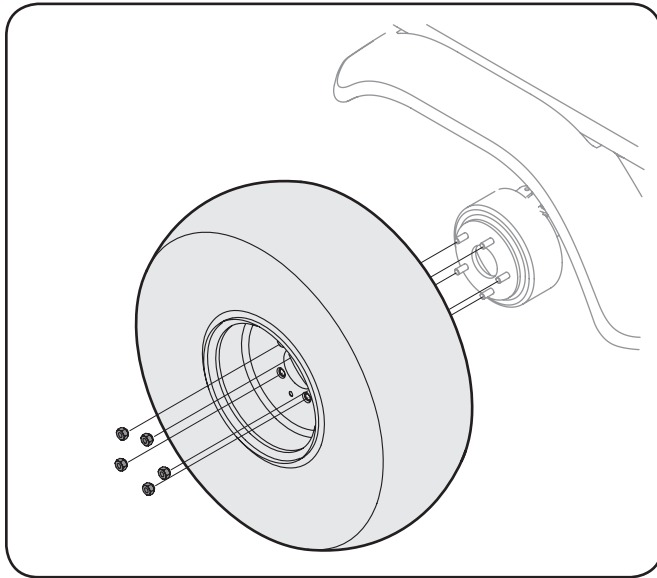

Figure 6-3
3. Loosen but do not remove the five lug nuts from the axle hub. See Figure 6-3.